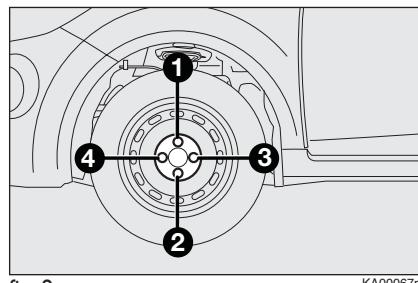

fig. 8
- Using the wrench provided, fully tighten the bolts in the sequence shown in **fig. 8**.